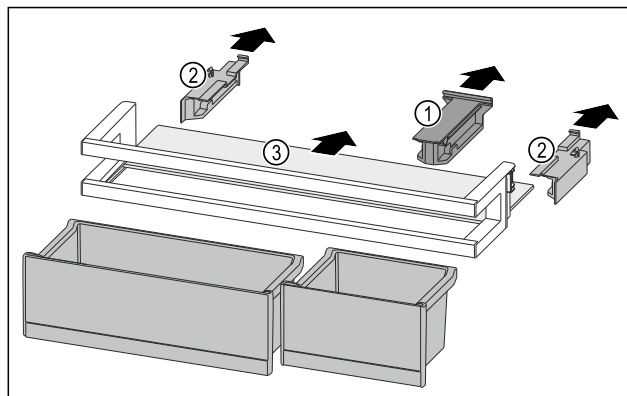

Fig. 124
- ▶ Pull off the holding part Fig. 124 (1).
- ▶ Pull off the side parts Fig. 124 (2).
- ▶ Remove the shelf Fig. 124 (3).